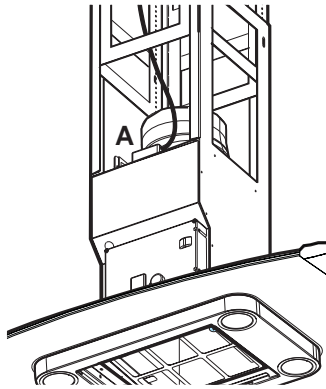

Fig. 1
- The air is discharged to the outside through a pipe, which must be fitted to connection flange **A**. **Fig. 1**.